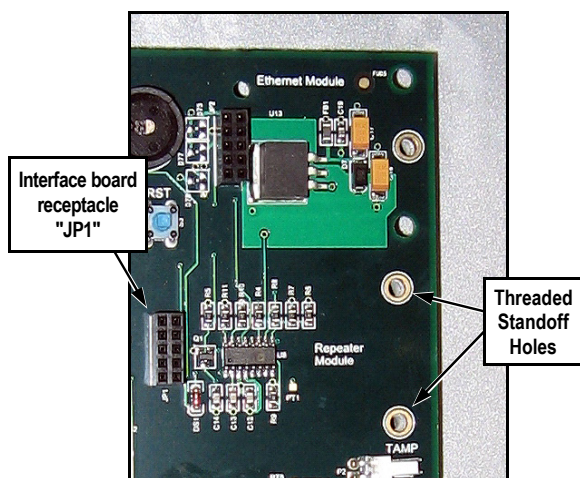

Fig. 2: Repeater Board Installation location, and Standoff Holes. Receptacle "JP1" also shown.
3. Install Standoffs: The Repeater board is mounted in the top right corner of the Accelaterm Interface board (see Fig. 2).